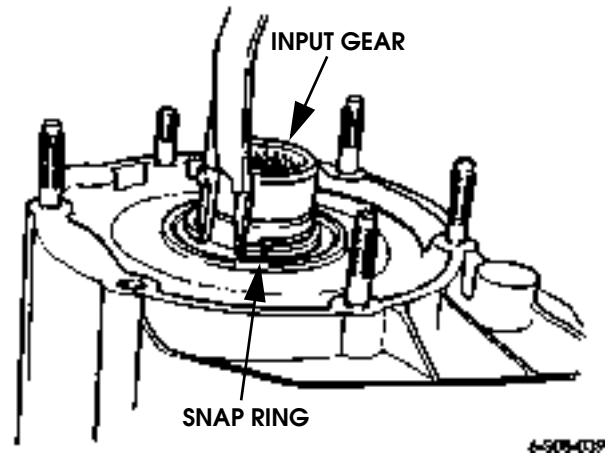

Figure 5-107: Input Gear Snap Ring Removal
30. Remove snap ring that secures input gear in bearing (Figure 5-107).